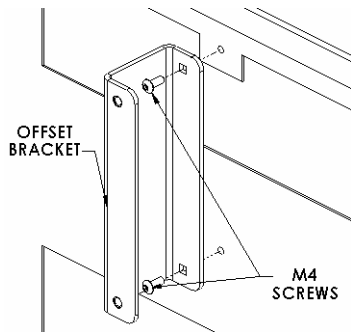
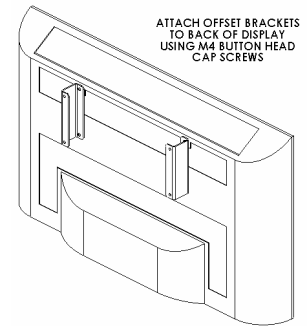

Figure 4
Figure 5
2. Place Offset Bracket on mounting holes, aligning square hole pattern on brackets with pattern on back of display (see Figure 4 & Figure 5).